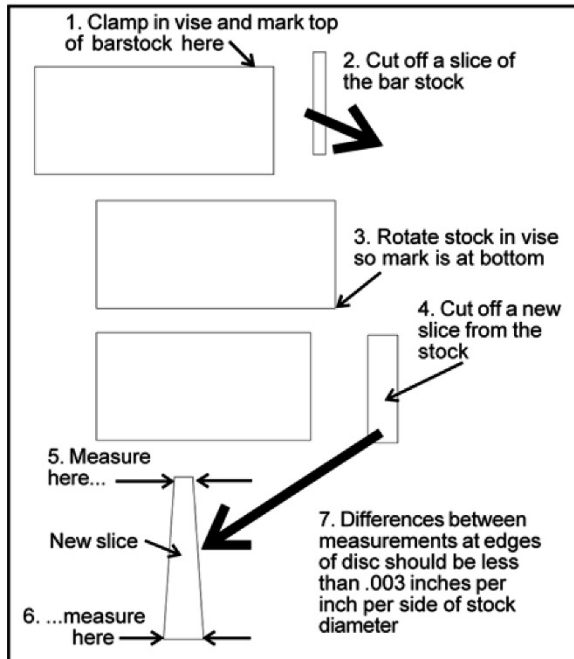

Figure 8-11
1. With bar stock securely clamped in vise, make a cut through the bar stock. (See Figure 8-11.)